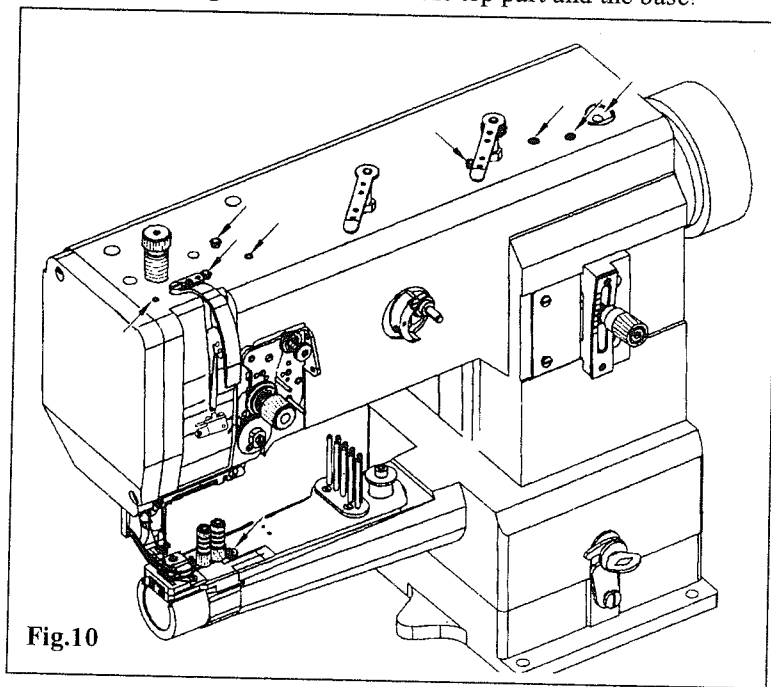
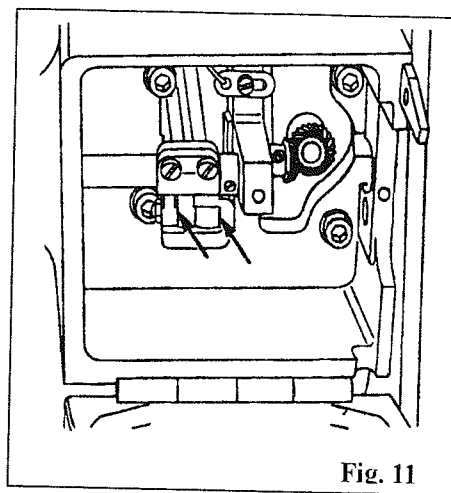

Fig.10
Fig. 11
- ⑨ Unscrew rotating hook handle and put in the bobbin capsule with bobbin.
- ⑩ Draw back the free arm cap.
3) GENERAL OILING (Fig.10, Fig.11)
Oil all the bearing positions shown in Fig 10 and 11 twice weekly.